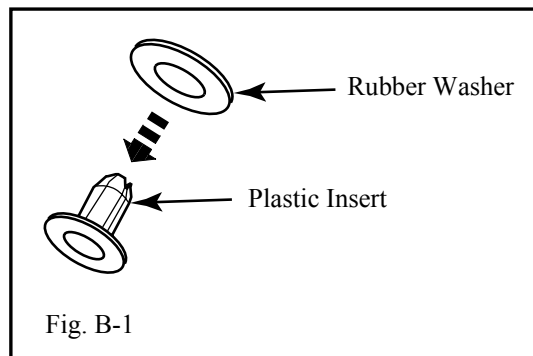

Fig. B-1
1. Install a rubber (Santoprene) washer onto each of the plastic inserts. (Figure B 1)